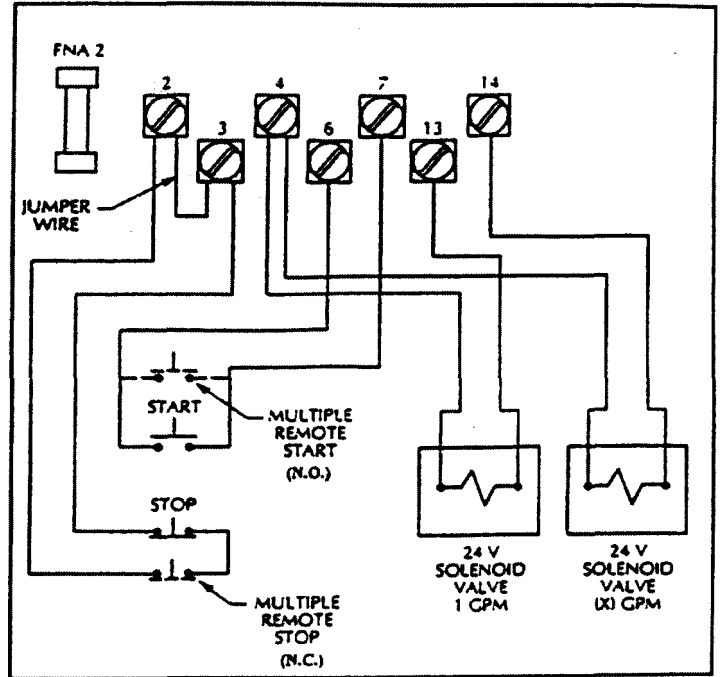

FIGURE 6. All control circuits 24 V
Any number of remote control stations can be used. Mount remote controls within sight of the disposer per local codes. Refer to Figure 6. Remove jumper wire when using remote control stations.
Two (2) 24 V solenoid valves are supplied with all control centers. Connect one (1) 24 V solenoid valve (in line with the 1 GPM flow control) to terminal 4 and 13, connect the other 24 V solenoid valve (in line with the (X) QPM flow control) to terminal 4 and 14. See Figure 6.